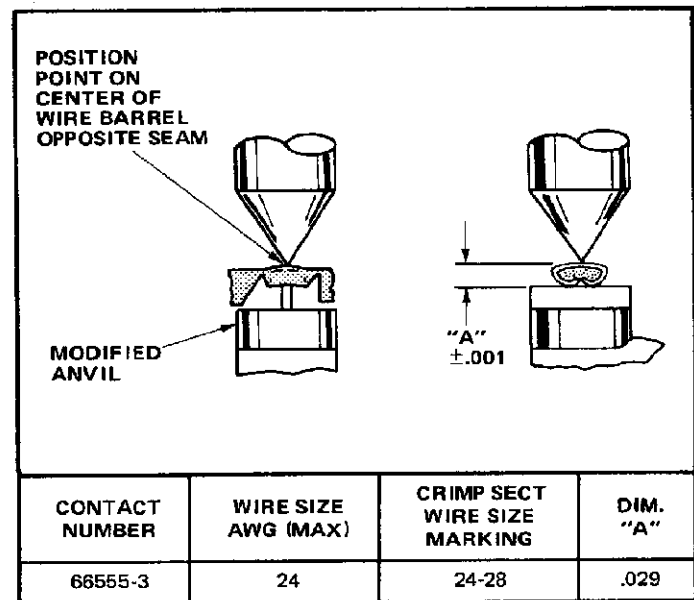

FIGURE II-2
This inspection incorporates the use of a micrometer with a modified anvil as shown in Figure II-2. We recommend the Crimp Height Comparator RS-1019-5L which can be purchased from:
1. Determine the maximum wire size, and select the applicable contact for the tool (see Figure II-2).
3. Using a crimp height comparator, measure the wire barrel crimp height as shown in Figure II-2. If the crimp height conforms to that shown in the chart, the tool is considered dimensionally correct. If not, return the tool to AMP for evaluation and repair (see Paragraph II-3). For additional information concerning the use of the crimp height comparator, refer to AMP Instruction Sheet IS 7424.
1. Determine the maximum wire size, and an applicable contact for the tool. See Figure II-2.